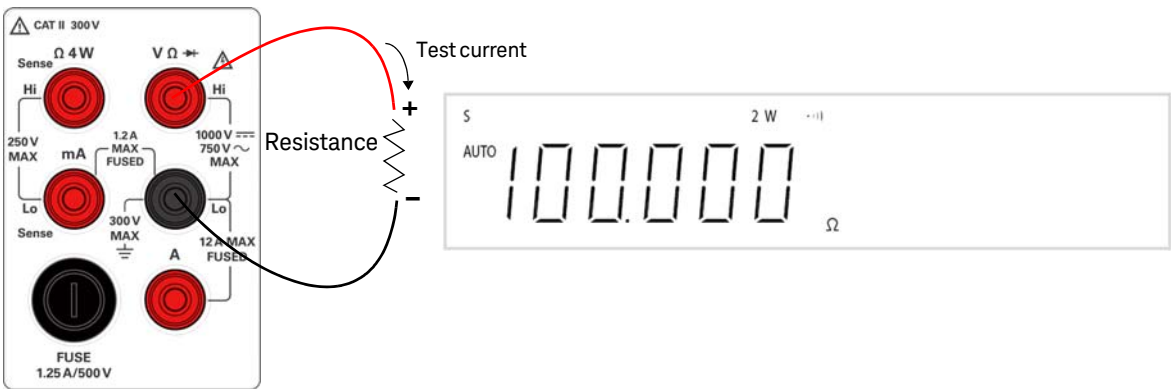

Figure 1-19 2-wire/continuity test terminal connection and display
- 2 Connect the red and black test leads to the input terminal as shown in Figure 1-19.